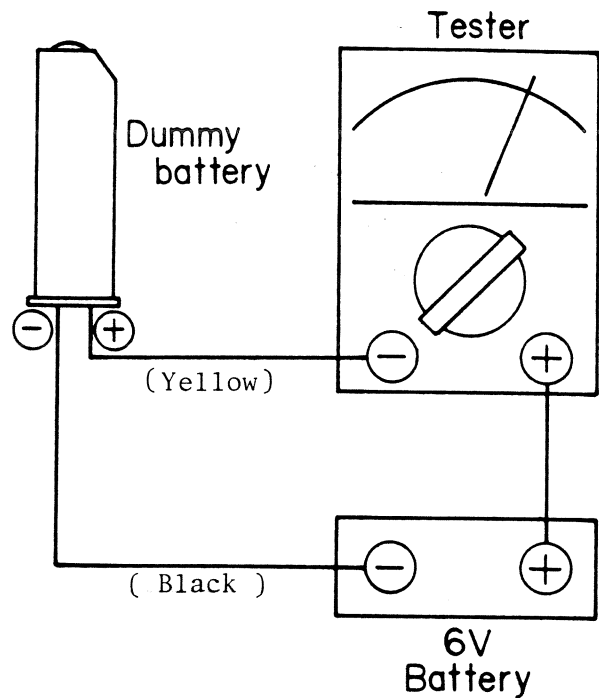

Fig.65
1. Arrange a tester, 6 voltage battery and EN-1 dummy battery. Then make wiring arrangements of them as shown in Fig. 65.